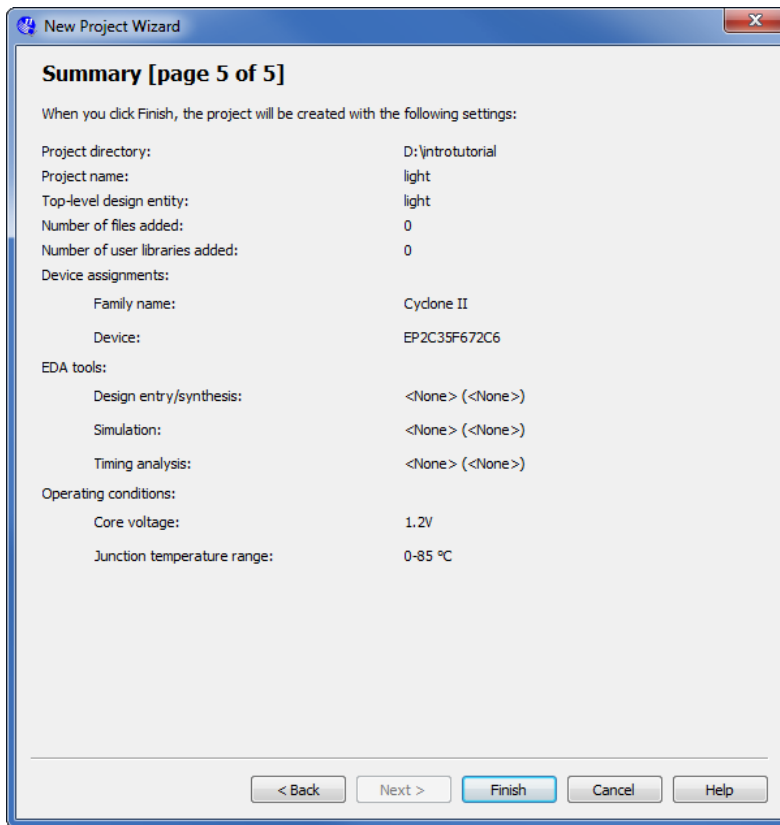
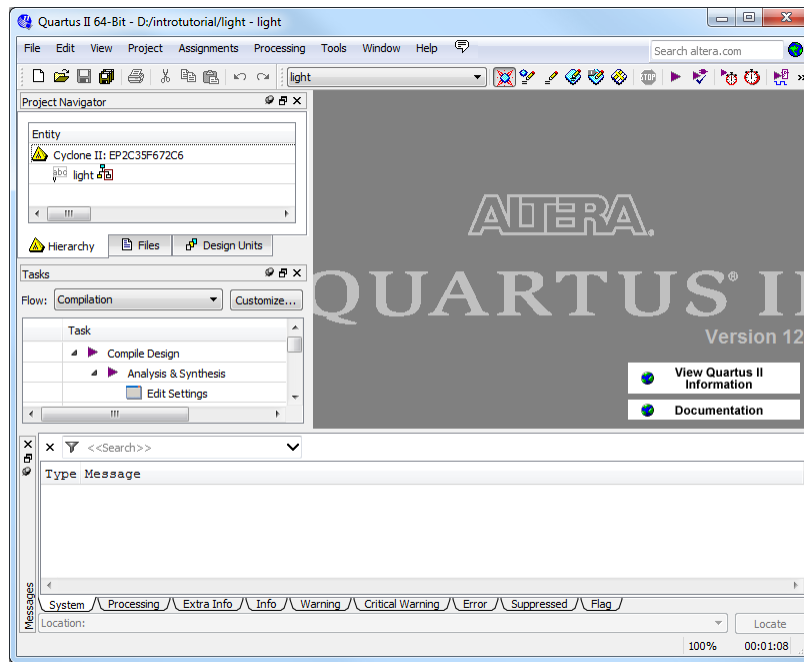

Figure 9. Summary of project settings.
Figure 10. The Quartus II display for a created project.
6. A summary of the chosen settings appears in the screen shown in Figure 9. Press Finish, which returns to the main Quartus II window, but with *light* specified as the new project, in the display title bar, as indicated in Figure 10.